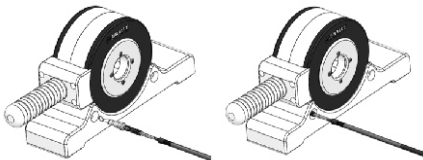

Figure 24: Illustration of the crimped diameter test, indicating the location of the hole in the base of the crimper.
- H.10. Perform the crimped diameter test, inserting the inflation balloon with the crimped valve prosthesis in the small hole located at the base of the crimper, and verifying whether the crimped valve prosthesis can cross it or not, as shown in Figure 24.